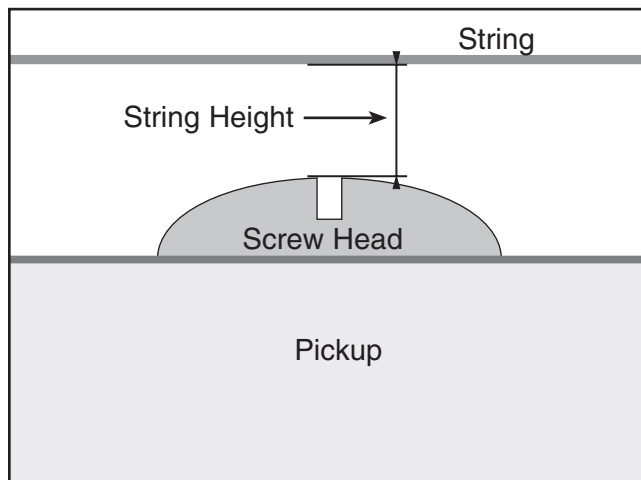

Figure 29. String heights over the pickup.
4. Measure the distance from the top of the outside screw heads on the neck pickup to the bottom of the strings as shown in **Figure 29**.